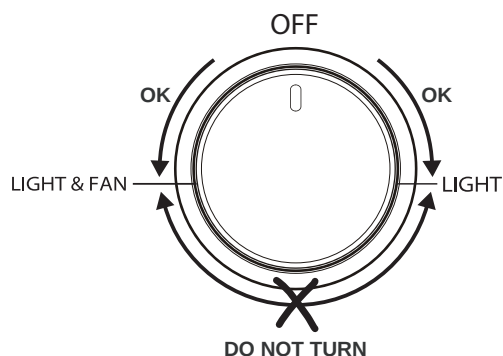

Fig. 3.2
The oven light and the fan motor are controlled by a switch knob on the control panel (fig. 3.2). To light up the oven lamp turn the knob clockwise to LIGHT position.
- During ignition of the oven burner, the fan motor shall be switched off (light and fan control knob in “OFF” position – Fig. 3.2).
After lighting the oven burner switch on the fan motor by turning the LIGHT & FAN control knob (fig. 3.2) on “**LIGHT & FAN**” position.